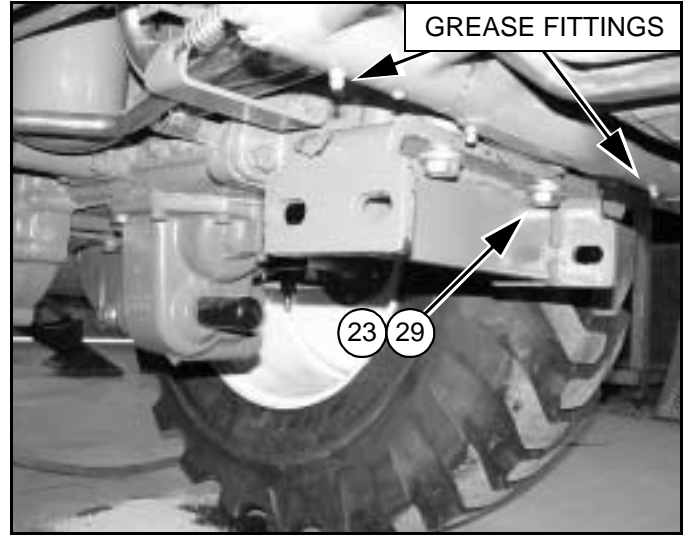

Figure 4 Mid-mount Bracket Installed
1. Install mid-mount bracket (3) to underside of transmission housing, using cap screws (23) and washers (29) as shown in Figure 4.